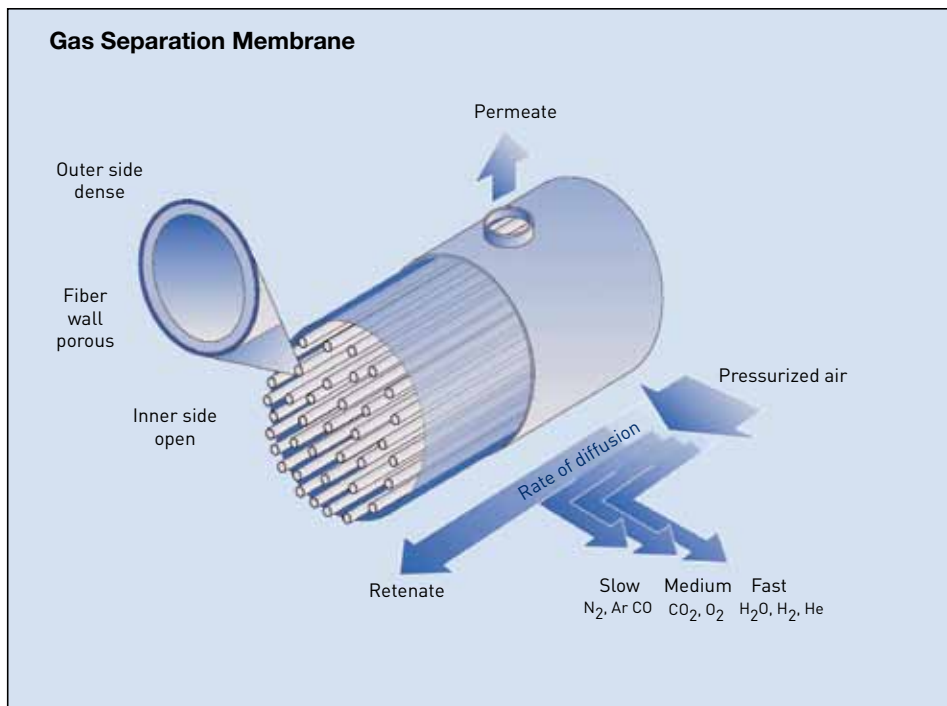

Figure 2: Separation of nitrogen via a semi-permeable membrane.
7. Nitrogen purification via a semi-permeable membrane. A hollow-fiber membrane separates the nitrogen from the other gases in the compressed air. Air flows through the tube as shown in Figure 2. Gases that permeate at a rapid rate (CO₂, O₂, H₂, H₂O, He) are removed from the com-